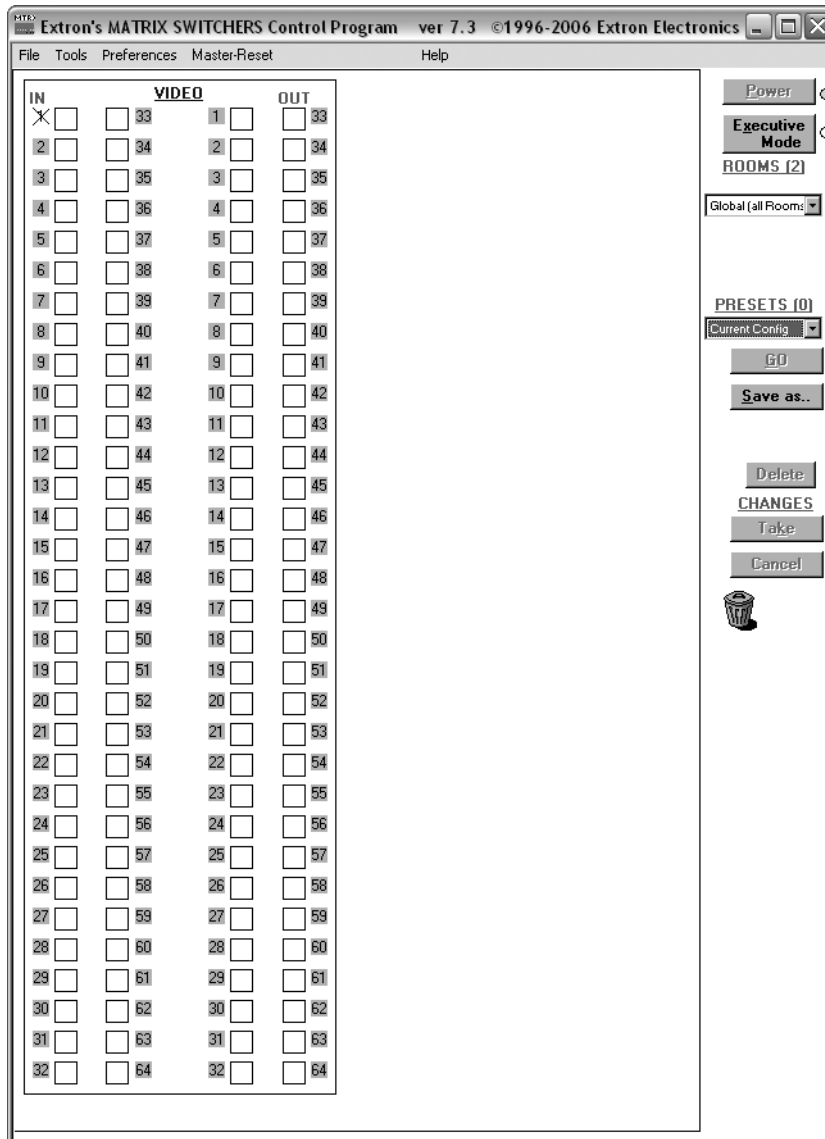
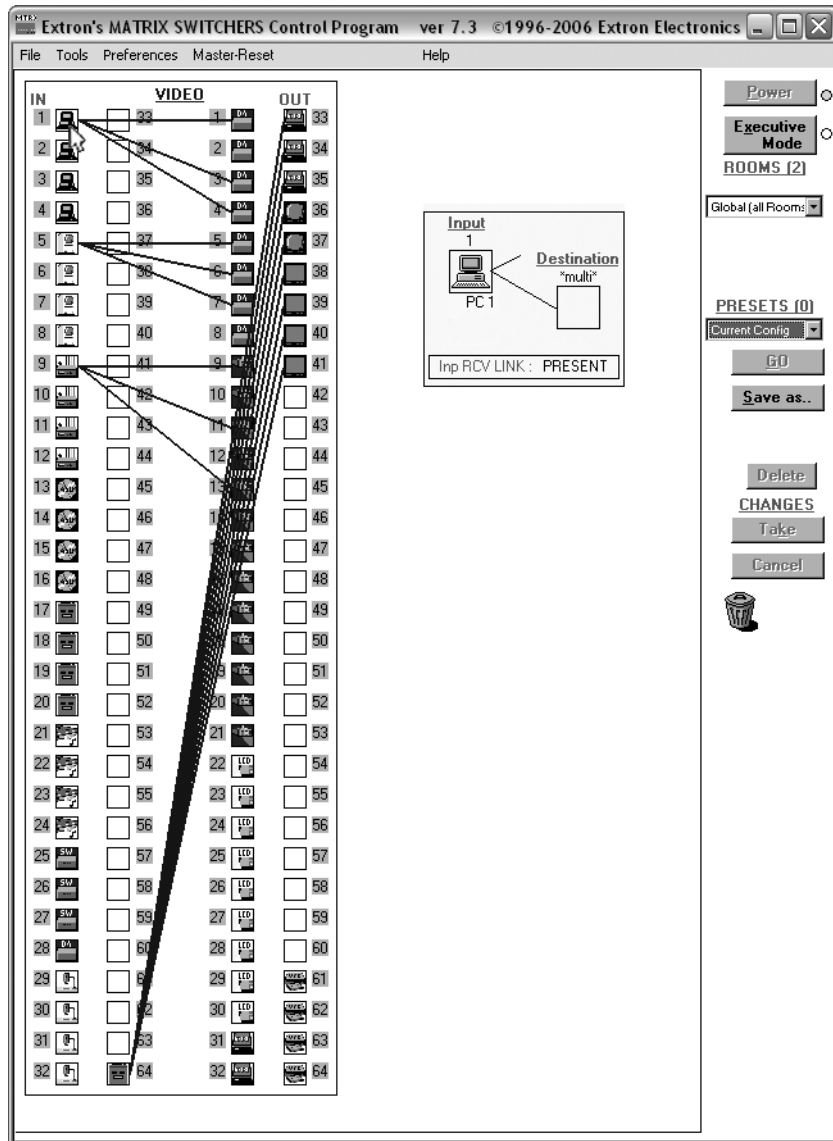

Figure 5-5 — Extron Matrix Switchers Control Program window (blank)
Figure 5-6 — Sample program window (complete)
Click **OK**. The Extron Matrix Switchers Control Program window (figure 5-5 and figure 5-6) appears, displaying the current configuration of the attached matrix. Proceed to step 4.
If you logged on using the administrator password, the program connects you to the matrix switcher with all of the administrator rights and privileges. The Extron Matrix Switchers Control Program window (figure 5-5 and figure 5-6) appears, displaying the current configuration of the attached matrix. Proceed to step 4.
- For quick display of information on a specific input or output device, position the pointer tool over that device in the control program window. The program opens a window that details the connections to that device and the status of the optical link (present or missing) input from or output to that device. See the inset box in figure 5-6.